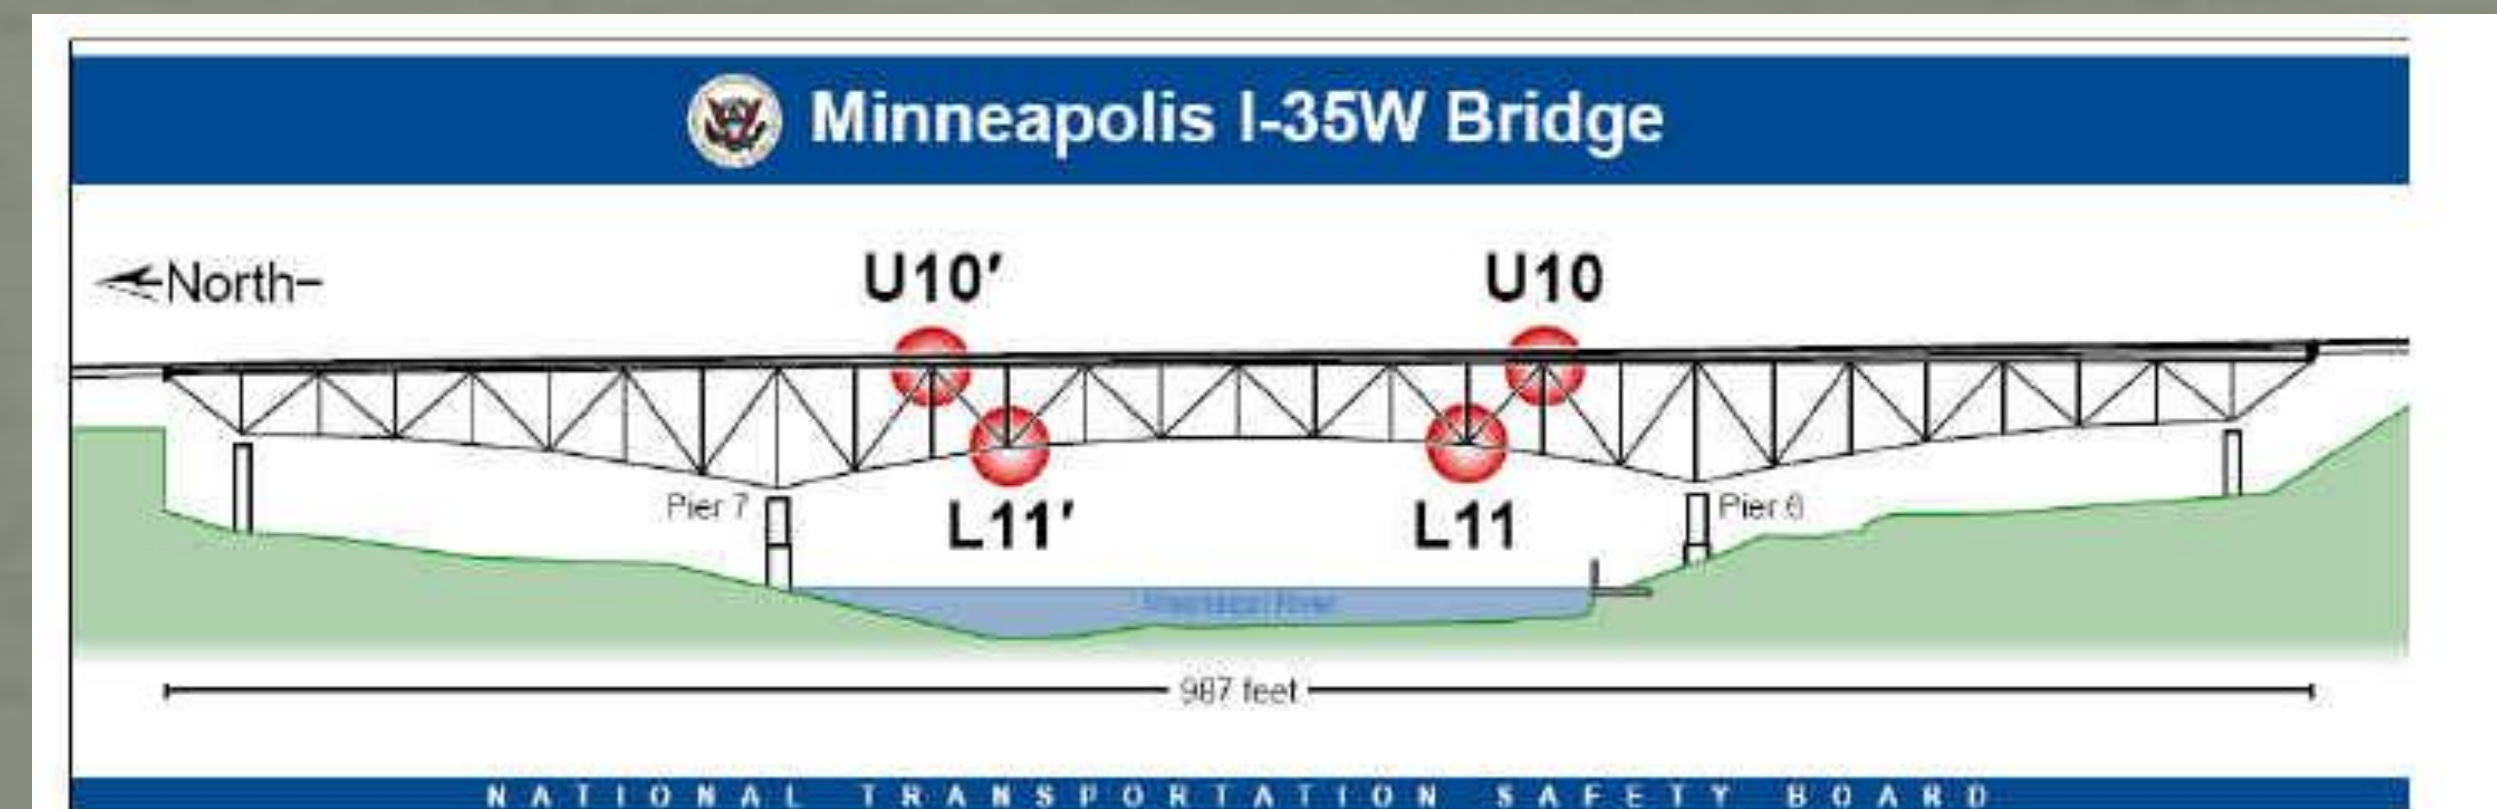

Fig. 2: U10 and L11 Gusset Plates
The collapse of the Minneapolis bridge was possibly caused by a design flaw. The U10 and L11 gusset plates pictured in figure 2 were too thin adding an allotted amount of pressure. At the time of the collapse, these gusset plates were considerably overstressed. The bridge was also located over the Mississippi River. This exposure to water could have dramatically increased the corrosion process.
- Figure 2: *Minneapolis I-35W Bridge U10 and L11 gusset plates*. 2007. Photograph. *Bridge Collapse Cases*. Norbert Delatte. Web. 16 Mar. 2010. <http://matdl.org/failurecases/Bridge%20Cases/minneapolis_i.htm>.